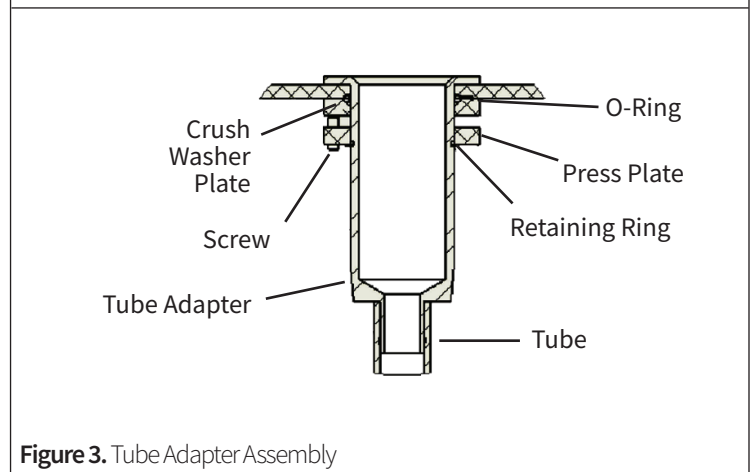

Figure 3. Tube Adapter Assembly
4. From the underside of the Liner, place the Crush Washer Plate over the Tube Adapter. Note the orientation of the Crush Washer Plate. This plate will be pushed flush with the underside of the Liner (Figure 3).